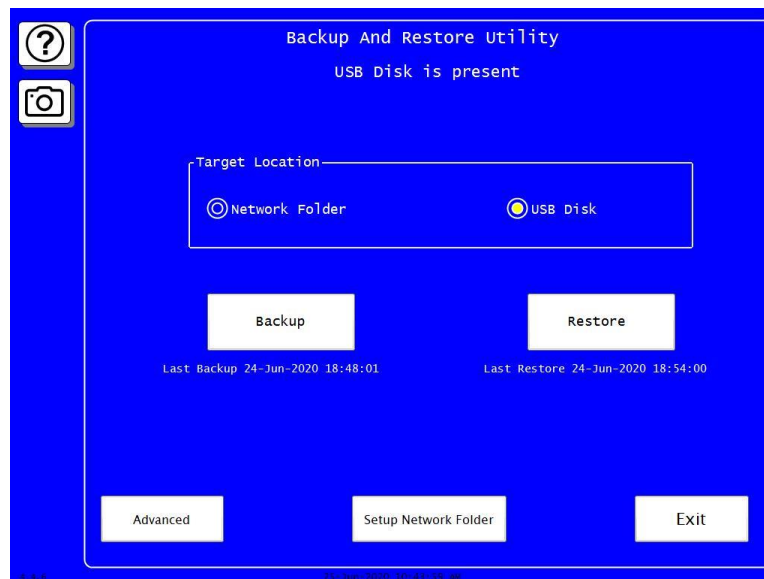

Figure 3-11. Backup and Restore Utility Screen
2. Select the BACKUP/RESTORE item on the Main Initialization Menu. The Backup and Restore Utility screen appears, Figure 3-11. The date of the last backup (if one was performed) is displayed on the screen.
1. In the Backup/Restore Utility screen, Figure 3-11, press Setup Network Folder. The Backup/Restore Setup screen appears, Figure 3-12.
On the Backup and Restore Utility screen, Figure 3-11, press Advanced.